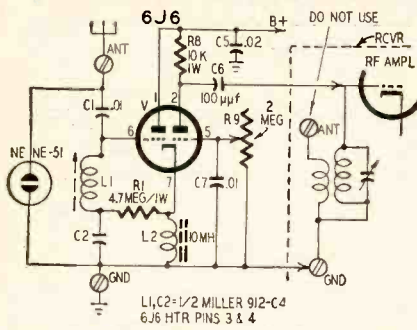

Fig. 6—The high-gain version for isolated areas, including T-R function.
A relatively simple modification of the original circuit makes possible a definite voltage gain in the front end and also biases off the input in the presence of very strong signals. This circuit (Fig. 6) is useful in isolated areas where more sensitivity is needed and in the immediate vicinity of very powerful transmitters which cannot easily be tuned out with ordinary front ends. This circuit is quite similar to the "S-9er" developed by Sam Canter, W6TSSQ1; in combination with the Barker and Williamson Model 380 T-R Switch. The R-C circuit in the second triode grid furnishes some T-R action.
- C6—100 μf, disc ceramic (Fig. 6 only)
- C7—0.01 μf, disc ceramic (Fig. 6 only)
- R8—10,000 ohms, 1 watt (Fig. 6 only)
- R9—2 megohms, linear pot (Ohmite type CU or equivalent, Fig. 6 only, see text)
- Rubber feet (4)
- Dual binding posts (2)—Eby 21-R or equivalent
- Socket—7-pin miniature with shell (1)
If the T-R function is not desired, the grid of the second triode (pin 5 in Fig. 6) is grounded directly.